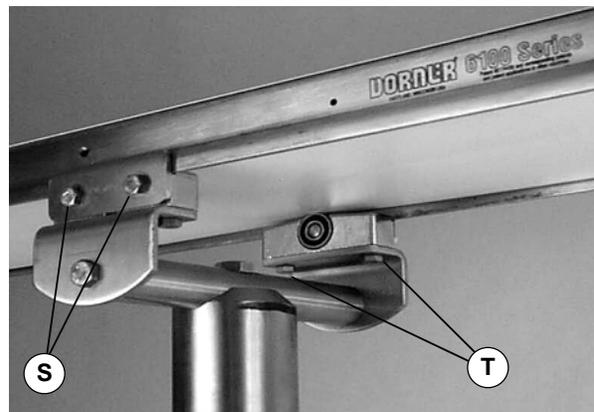

Figure 14
3. Attach clamp plates on each side of conveyor (Figure 14). Tighten the screws (S) to 92 in-lb (10.4 Nm).